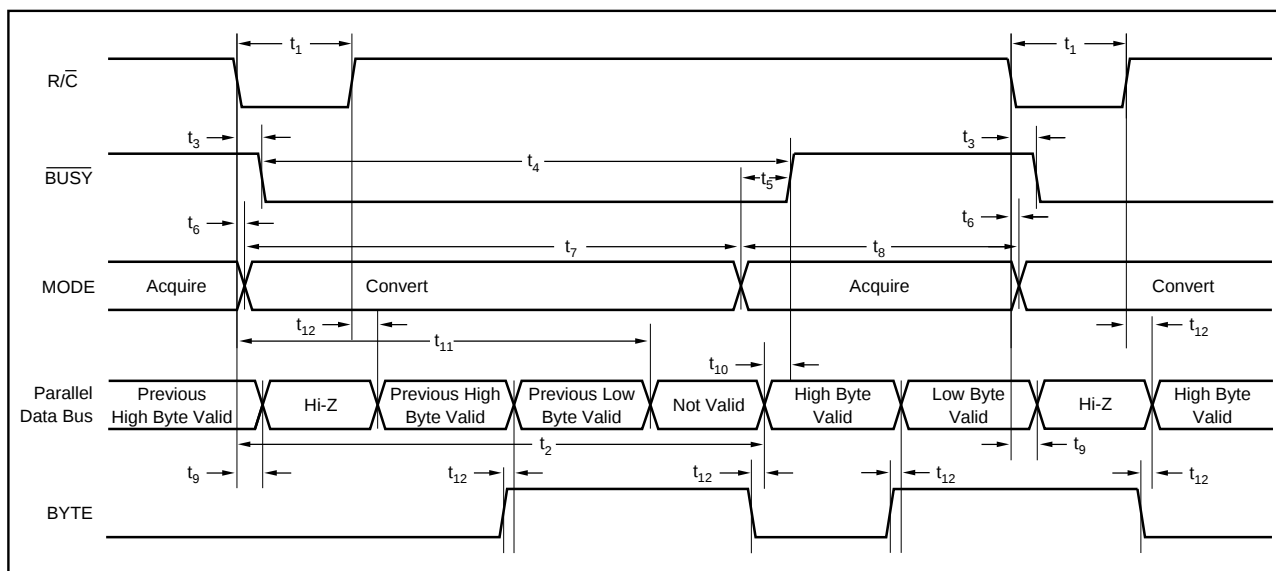

FIGURE 2. Conversion Timing with Parallel Output ($\overline{\text{CS}}$ and DATACLK tied LOW, $\overline{\text{EXT/INT}}$ tied HIGH).
The ADS7807 will begin tracking the input signal at the end of the conversion. Allowing 25µs between convert commands assures accurate acquisition of a new signal. Refer to Tables III and IV for a summary of $\overline{CS}$, $R/\overline{C}$, and $\overline{BUSY}$ states and Figures 2 through 6 for timing diagrams.
NOTE: (1) See Figures 2 and 3 for constraints on data valid from conversion "n-1".
After conversion 'n' is completed and the output registers have been updated, $\overline{\text{BUSY}}$ (pin 24) will go HIGH. Valid data from conversion 'n' will be available on D7-D0 (pins 9-13 and 15-17). $\overline{\text{BUSY}}$ going high can be used to latch the data. Refer to Table VI and Figures 2 and 3 for timing constraints.
After conversion 'n' has been initiated, valid data from conversion 'n-1' can be read and will be valid up to 12 μs after the start of conversion 'n'. Do not attempt to read data beyond 12 μs after the start of conversion 'n' until $\overline{\text{BUSY}}$ (pin 24) goes HIGH; this may result in reading invalid data. Refer to Table VI and Figures 2 and 3 for timing constraints.